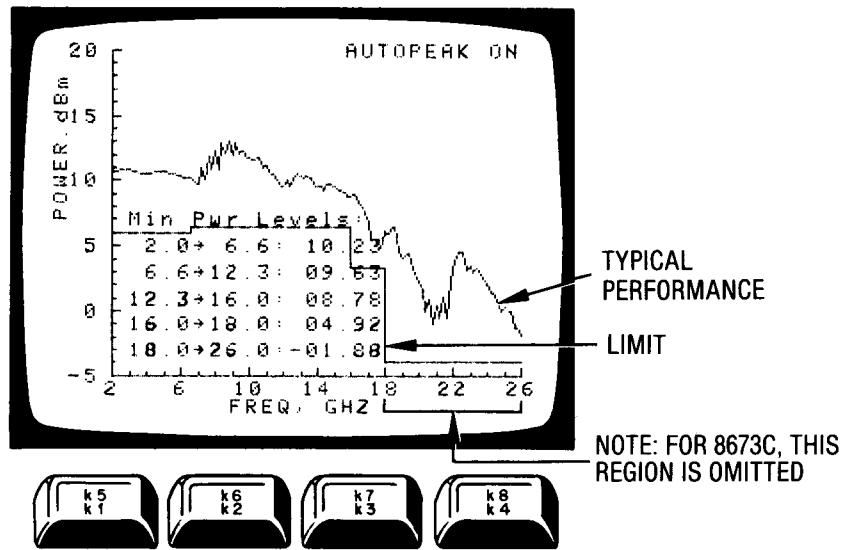

Figure 8-41. HP 8673C/D Power Output Plot, K Band Amplifier Out, Normal Mode
23. Compare the plots just taken to those in Figures 8-41 through 8-45. Refer to Table 8-14 for the HP 8673C or Table 8-15 for the HP 8673D, for possible failure modes, and take the indicated action.